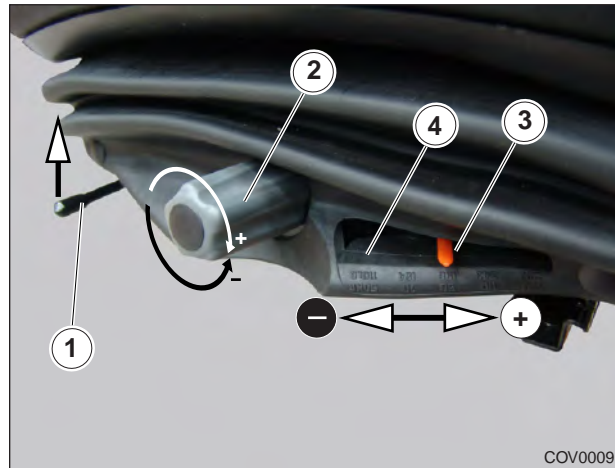

Figure 7.3. - Seat Adjustment
Refer to Figure 7.3. Lifting the lever (1) allows the seat to move forwards or backwards to suit the leg length of the operator. When the lever is released the seat is locked in position.